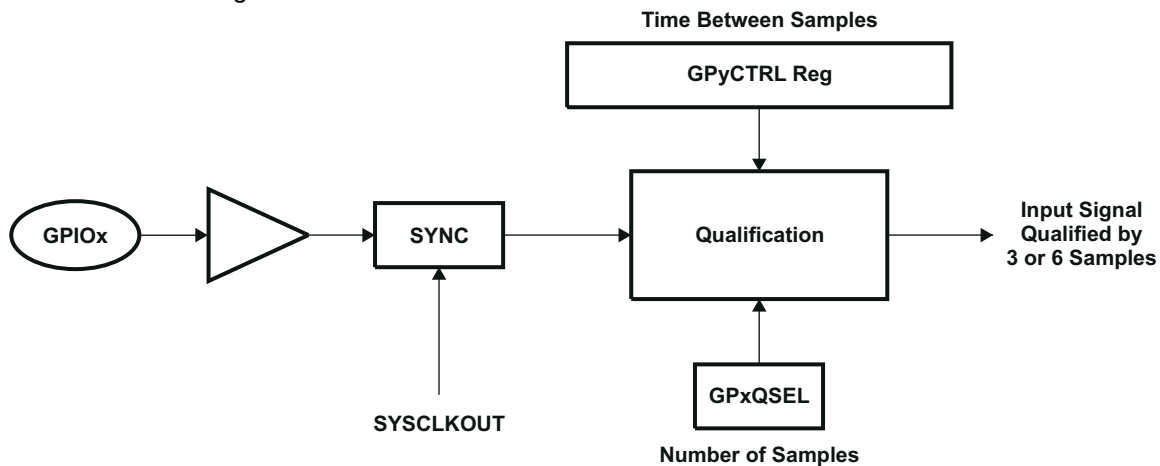

图 8-19. Qualification Using Sampling Window
- The sampling period is specified by the QUALPRD bits in the GPxCTRL register and is configurable in groups of 8 signals. It specifies a multiple of SYSCLKOUT cycles for sampling the input signal. The sampling window is either 3-samples or 6-samples wide and the output is only changed when all samples are the same (all 0s or all 1s) as shown in 图 8-19 (for 6-sample mode).